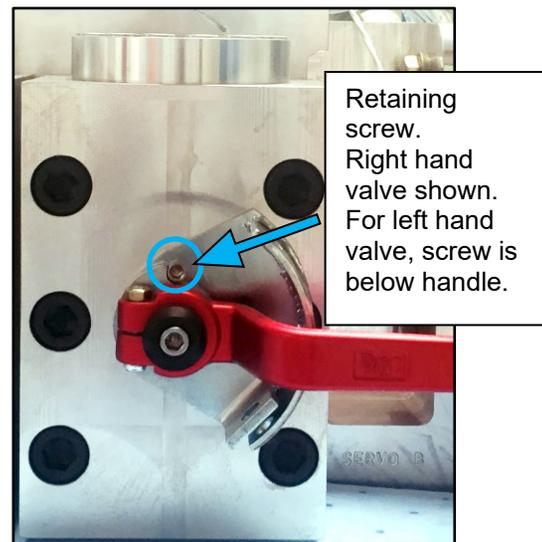

Figure 3-3. Isolation Valve Bracket Retaining Screw Location
4. Loosen and remove the retaining screw on the handle of the lock bracket using a **3/16 in** hex key wrench (Figure 3-3).